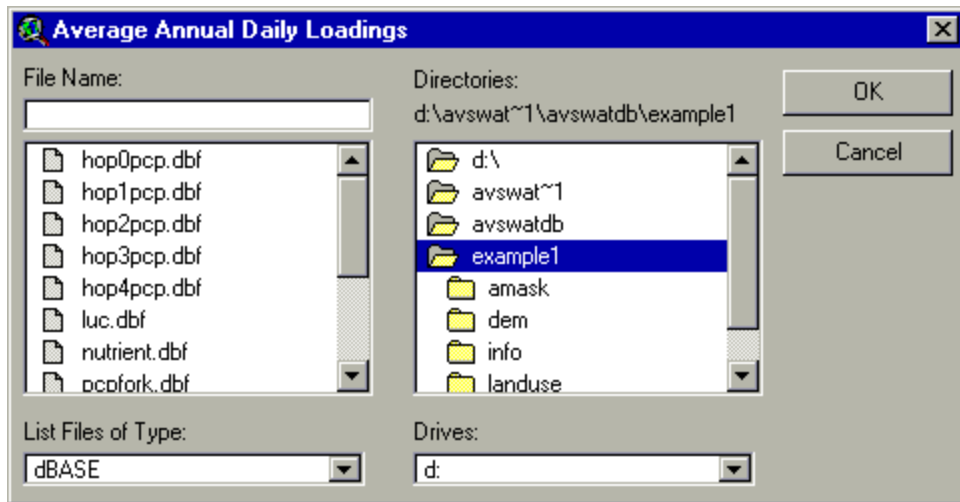

Figure 9.9
- iii. A browser will be displayed, allowing the user to select the dBASE file (.dbf) or text file (.txt) file containing the point source data from disk (Figure 9.9).